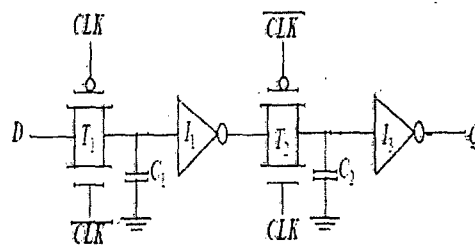

Figure 3
- 6. Give the setup time of the edge triggered register given in Fig3.